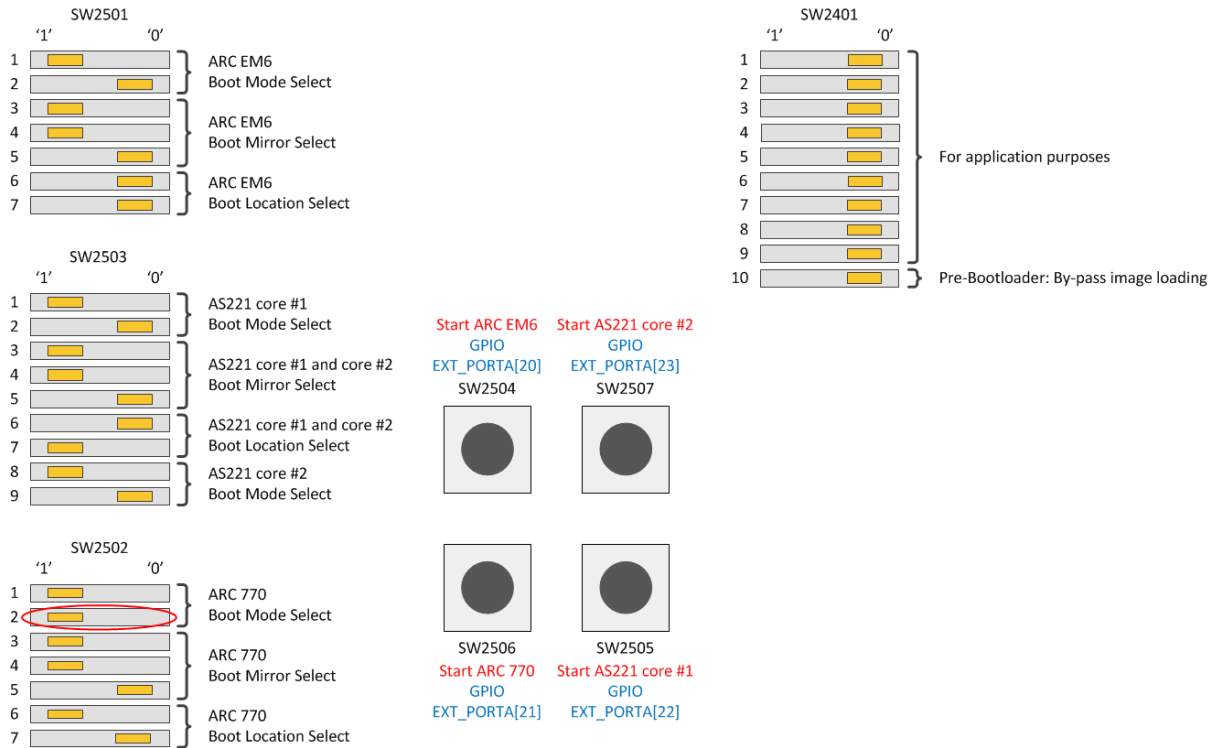
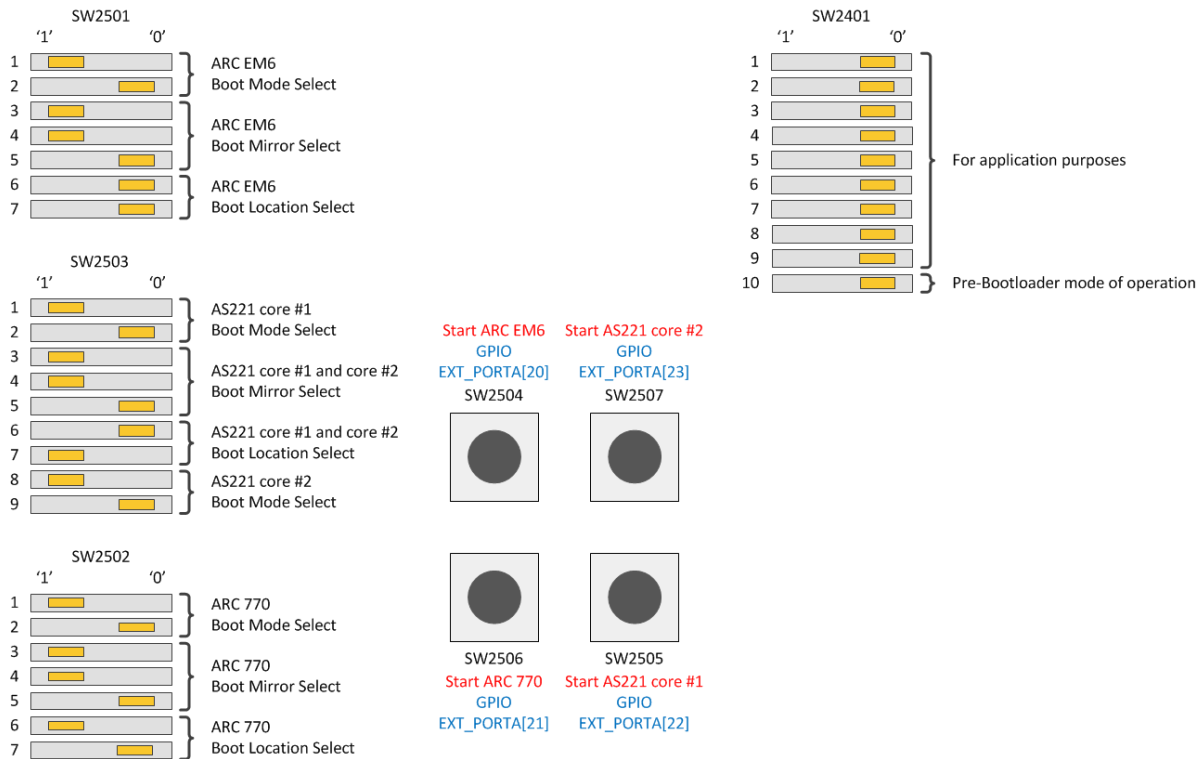

Figure 40 DIP switch settings for auto-starting U-Boot
Figure 41 DIP switch settings for manually starting U-Boot by pushing SW2506
Figure 40 shows the DIP switch settings on the ARC SDP Mainboard for starting U-Boot on the ARC 770D core automatically after reset. As an alternative, Figure 41 shows the DIP switch settings for starting U-Boot on the ARC 770D after pushing the button SW2506.
5. Set the DIP switches on the Mainboard according to Figure 40 above.